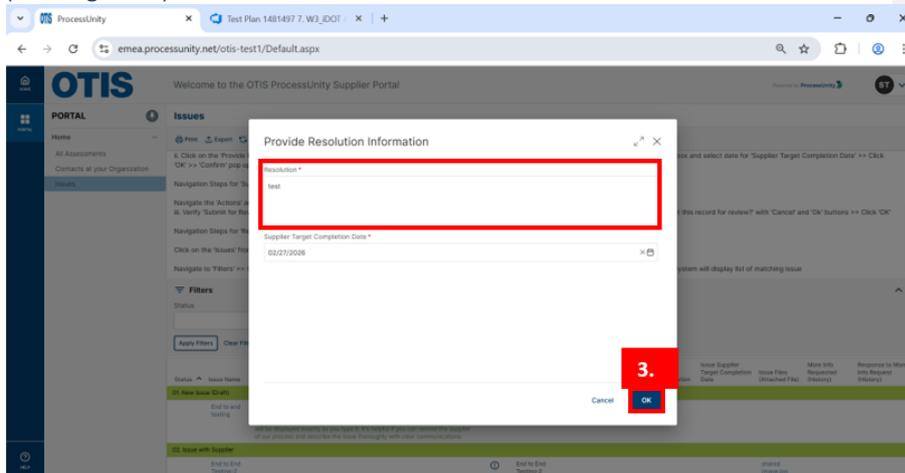

Figure 27
- Populate **Resolution** comments with the expected **Completion Date** and click **OK** (Refer figure 27)